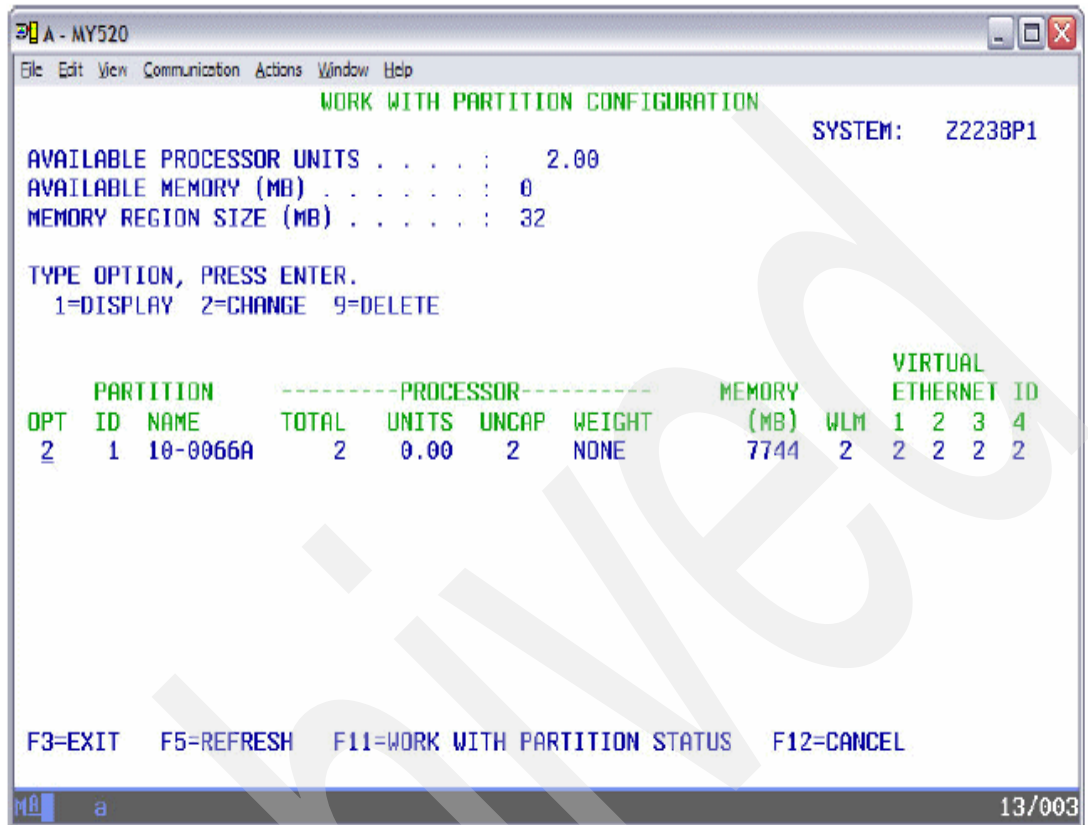

Figure 13-7 Work with Partition Configuration
- From the Work with Partition Configuration menu, select option **2. Change partition configuration** for your i5/OS instance as shown in Figure 13-7.